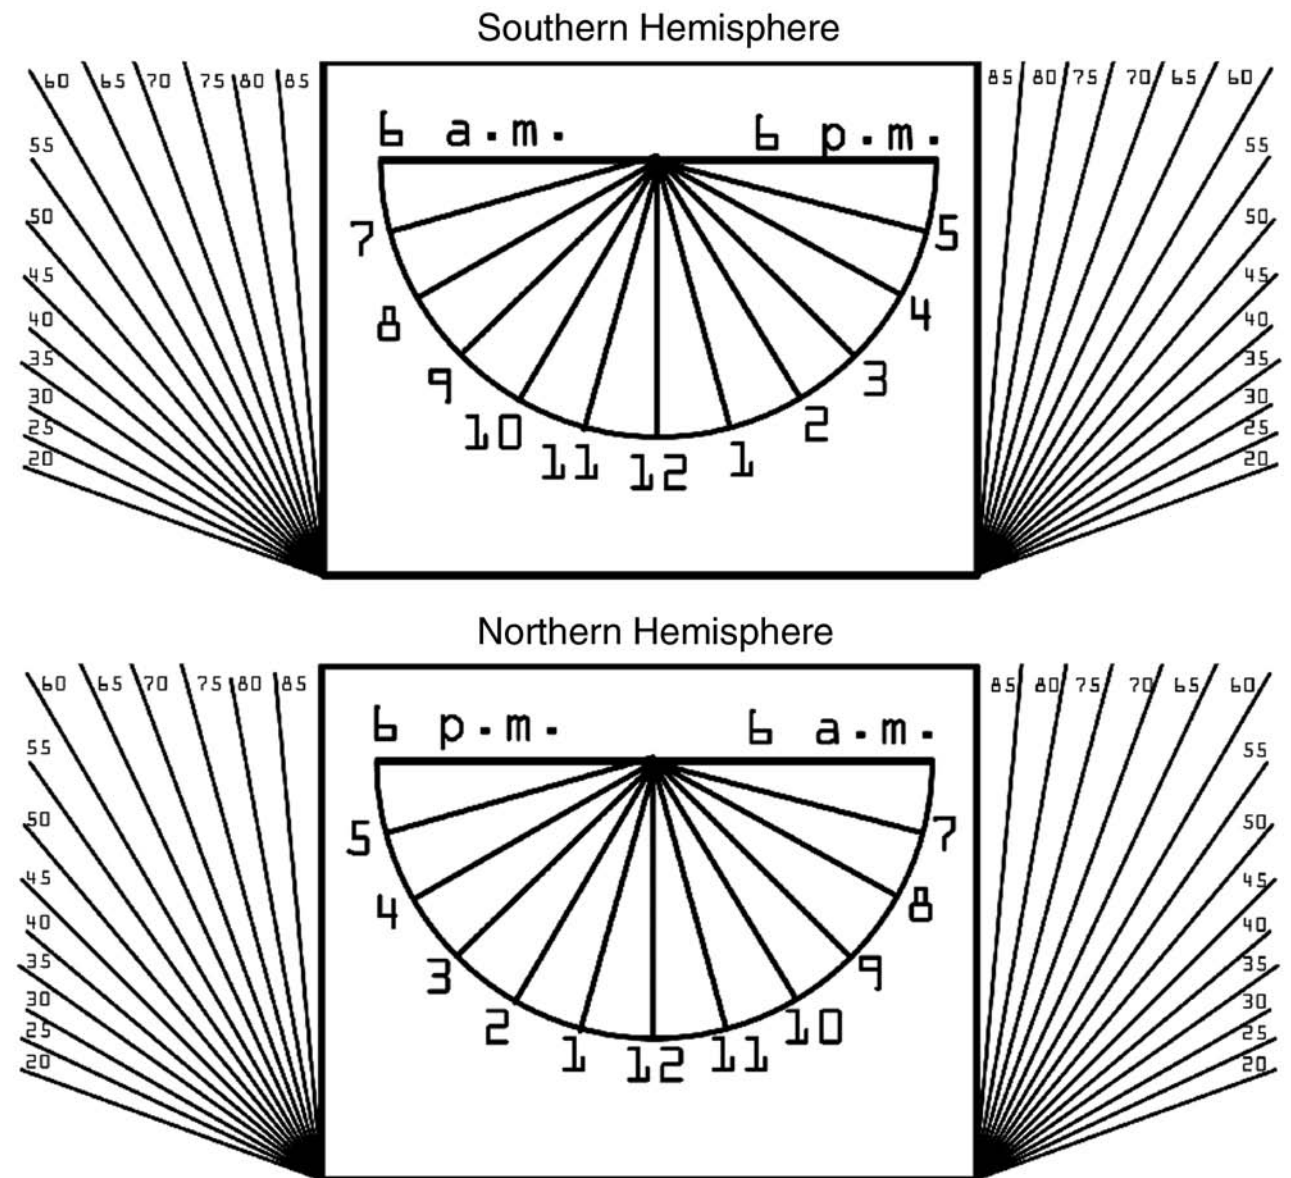

Figure 3-5 Template for our “solar-powered clock.”
- Photocopy of Figure 3-5
This is a dead-easy and quick sundial for you to build. Take a photocopy of Figure 3-5. If you want